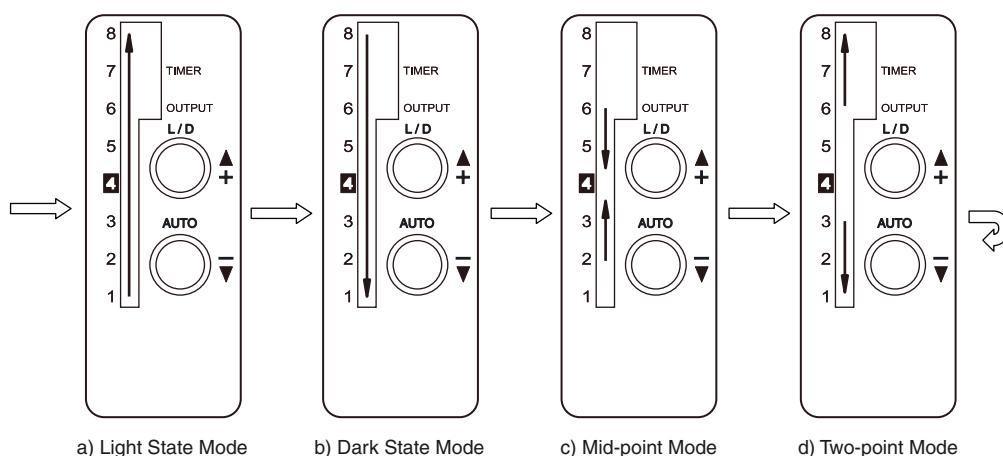

Figure 1. LED flashing sequence for automatic teach modes
- 1) Position the sensor so that its effective ultraviolet (UV) light beam is focused on the luminescent target. The target should glow when excited by UV light.
2) While pressing the AUTO button, repeatedly press the "+" button to scroll through the four possible automatic teach modes. The direction of the flashing contrast indicator LEDs (numbered 1 through 8) indicates the current automatic teach mode (see Figure 1). When the desired mode is indicated, release the AUTO button. Descriptions of the four automatic teach modes are below.